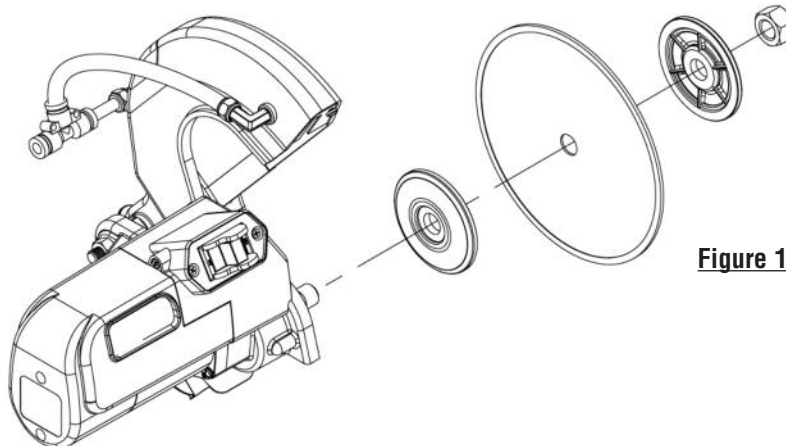

Figure 1
2. Remove the blade shaft nut and outer flange. *See Figure 1.* If a blade has been mounted, hold the blade with one hand and use the other hand to loosen the nut with the universal wrench. Remove existing blade.